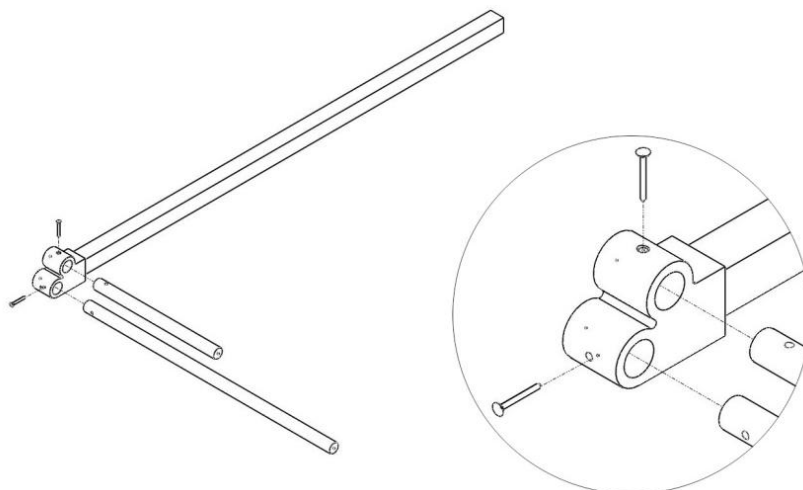

Figure 3
3. Insert the Fingers (cvEE) into the Extension Arm (cvDD) and screw the Set Screw (cvK) through each mounting hole. Take note of the positioning of the Fingers (cvEE). The short Finger (cvEE) should be inserted into the upper opening, repeat this for each side of the spa. See Fig 3.